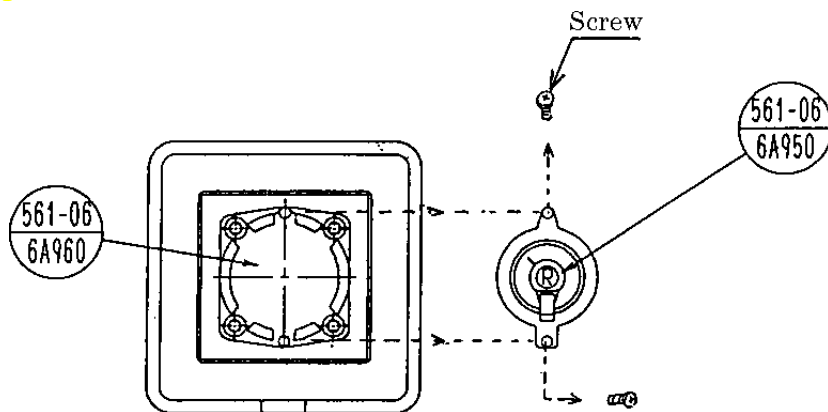

Fig. 2
- 3) Remove the transmitter (561-06-6A950) from the float sensor (561-06-6A960). (Refer to Fig. 2.)